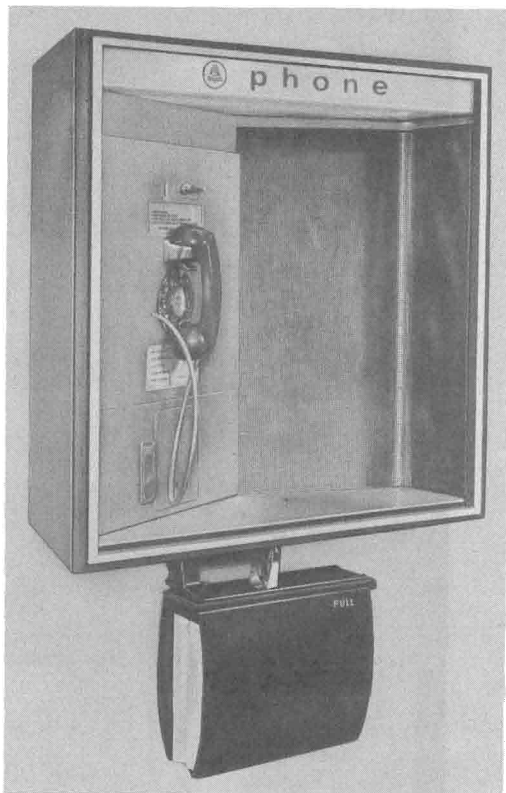

Fig. 1—KS-20194, List 1 Coin Telephone Shelf with KS-20030 Directory Hanger
1.02 The KS-20194 coin telephone shelf (Fig. 1) is a wedge-shaped wall mount intended for indoor use only.
1.04 The wedge shelf is designed for mounting a 235/1235-type coin collector or a 2A/2C type coin telephone set in the left or right corner (Fig. 1) or a 1A-type coin telephone set in the left corner (Fig. 3).
- (a) KS-20030, List 5 directory hanger (Fig. 1)